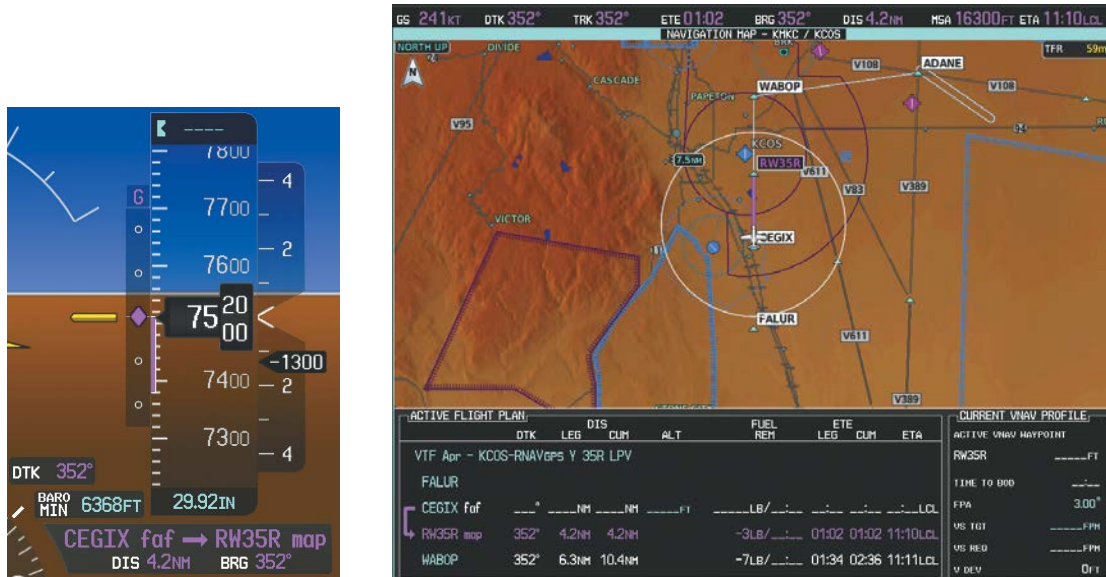

Figure 5-192 Descending to the Missed Approach Point
22) After crossing CEGIX, the aircraft continues following the glidepath to maintain the descent to the Missed Approach Point (MAP) (RW35R) as seen in Figure 5-192.